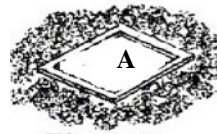

Figure 1
1. Put face frame (A) face down on a flat soft working surface (Figure 1).